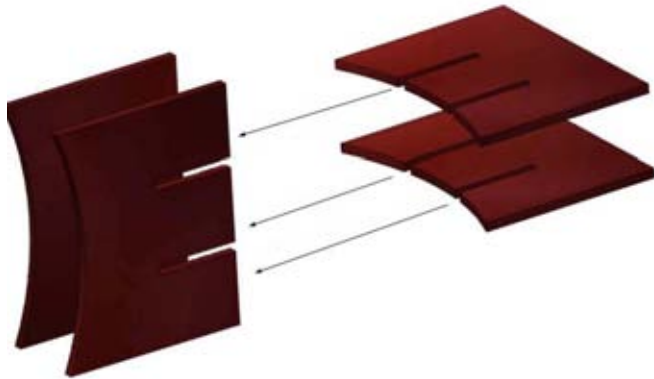

Figure 1a
1. Locate the (2) vertical panels and the (2) horizontal panels. Stand both vertical panels upright and connect the first horizontal panel by sliding it into the open slots. Repeat for the second horizontal panel (**Figure 1a-b**).